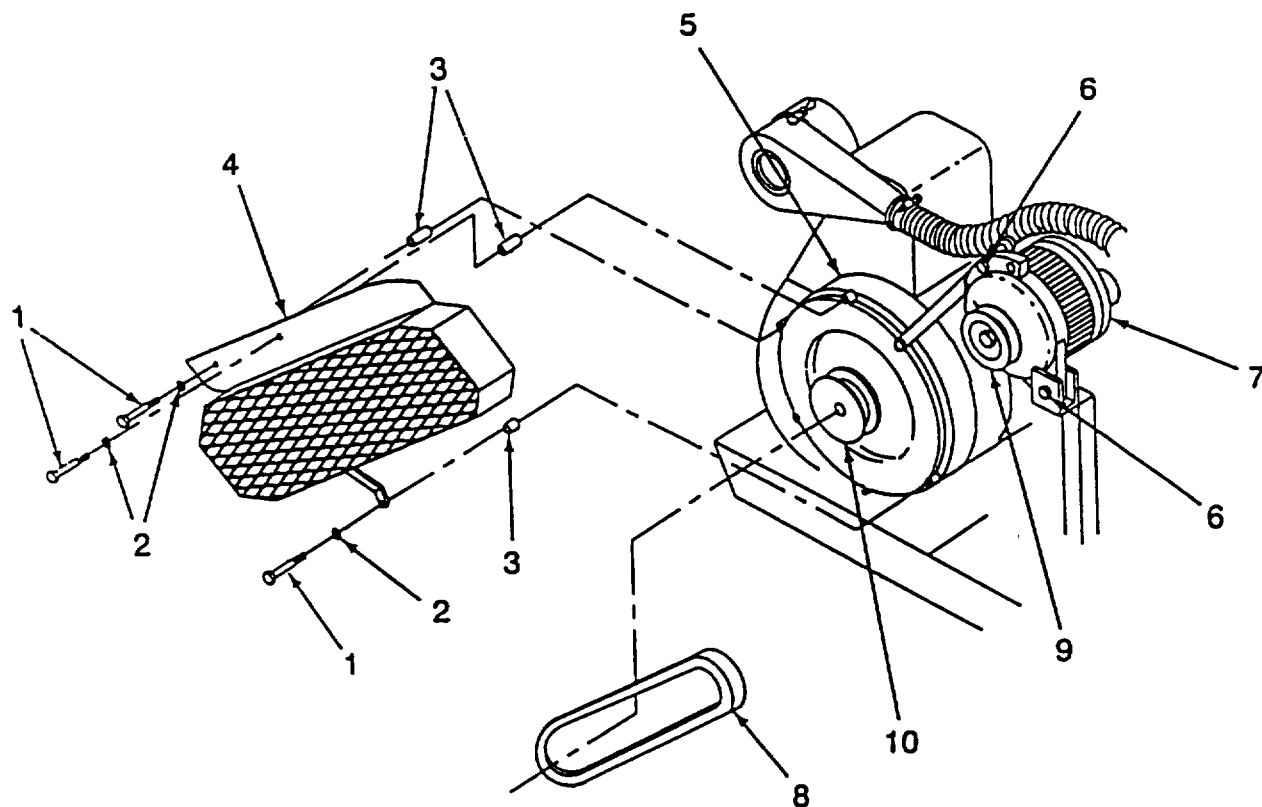

Figure 4-22. Alternator Belt
(1) Removal. (Refer to Figure 4-22).
- (a) Remove three cap screws (1), three lockwashers (2), and three spacers (3) from alternator belt guard (4). Discard three lockwashers (2).
- (b) Remove alternator belt guard (4) from engine housing (5).
- (c) Loosen two cap screws (6) from alternator (7).
- (d) Slide alternator (7) forward to loosen alternator belt (8).
- (e) Remove alternator belt (8) from alternator pulley (9) and engine pulley (10).
(2) Installation.
- (a) Install alternator belt (8) onto alternator pulley (9) and engine pulley (10).
- (b) Slide alternator (7) back so that alternator belt (8) is tight.
- (c) Tighten two cap screws (6) while holding back on alternator (7).
- (d) Install alternator belt guard (4) to engine housing (5), placing three spacers (3) between engine housing (5) and alternator belt guard (4).